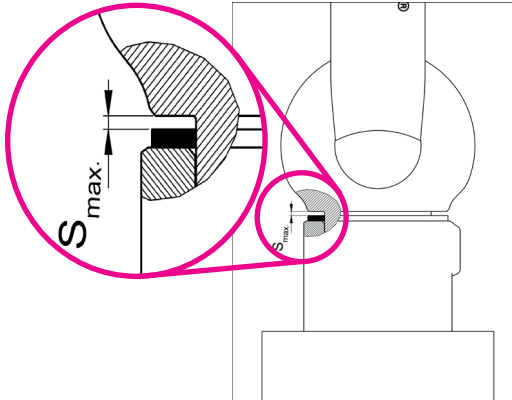

Fig. 13: S_{max} = distance between upper and lower part
- The maximum clearance between the upper and lower part of the TXP lifting point must not be exceeded (cf. Fig. 13).
- The maximum clearance S_{max} between the upper and lower part is exceeded (Fig. 13):